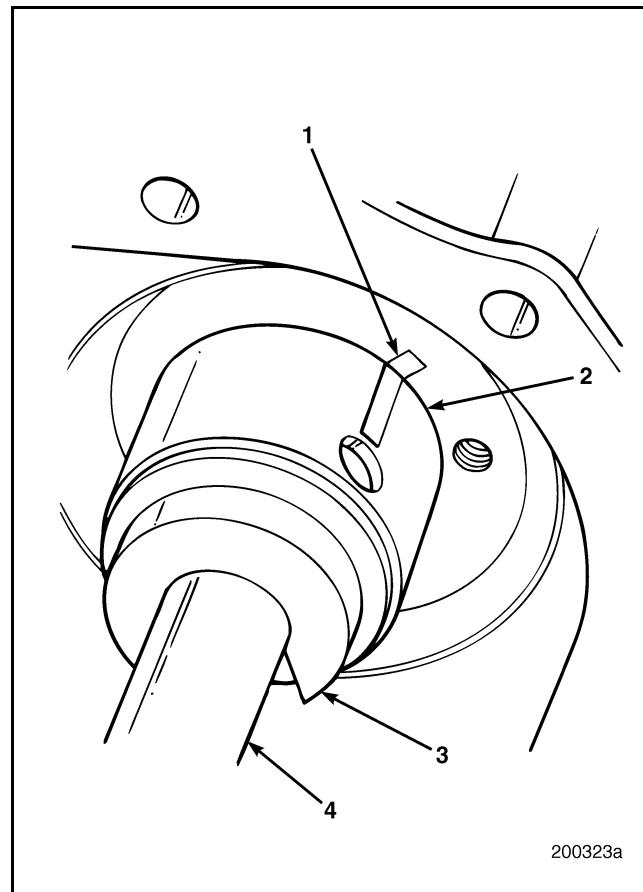

Figure 207 — Auxiliary Shaft Bushing Alignment
2. Using a dark-colored felt-tip marker, mark the cylinder block and the bushing with a line to facilitate correct alignment during installation. Refer to Figure 207.